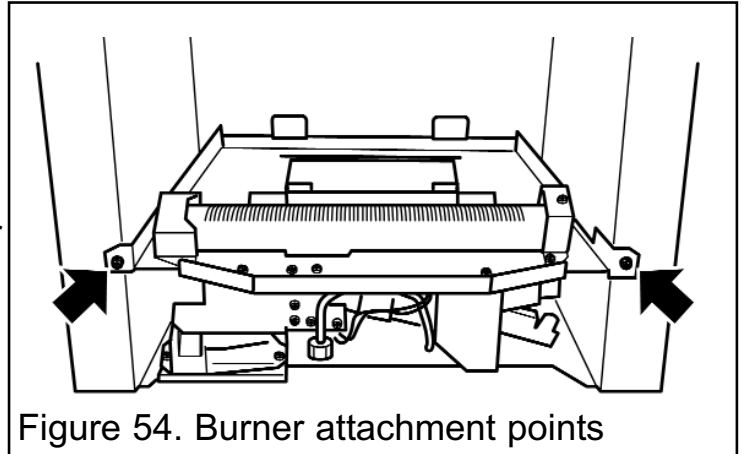

Figure 54. Burner attachment points
4. Detach the burner unit from the convection box by removing two screws (See figure 54).